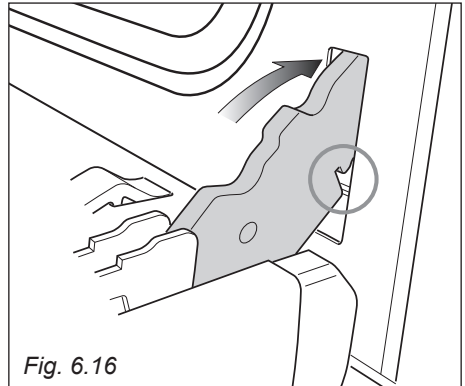

Fig. 6.16
- Insert the hinge tongues into the slots, making sure that the groove drops into place as shown in the fig. 6.16.